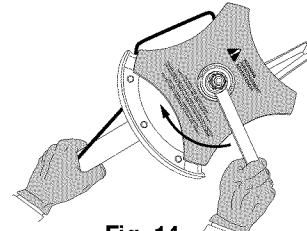

Fig. 14
- While holding the locking rod, loosen the nut on the blade by turning it clockwise with a 13 mm closed-end or socket wrench (Fig. 14).